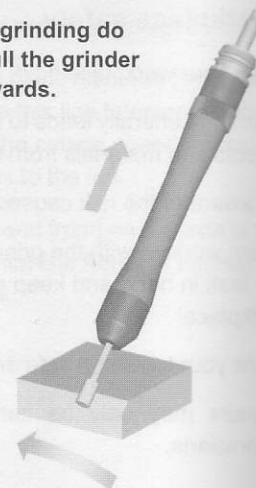

Fig. 1: Safety notes for SRD 3-55/2S
- During grinding, do not pull the grinder backward (see Fig. 1). Otherwise, there is a risk that the grinding tool is removed from the chuck. This is particularly the case with hard-faced milling heads for the machining of steel. The risk of removal of the tool can be eliminated by using left-grooved grinding heads.